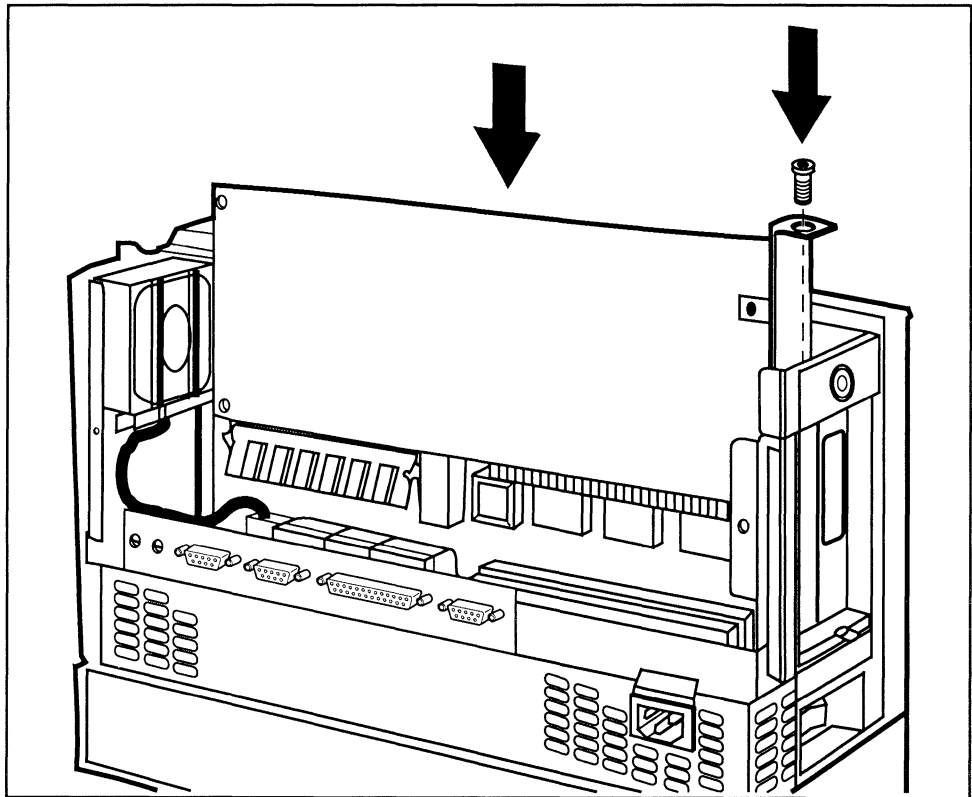

Figure 4–25. Installing a network interface card in the Model 54/55.
5. Carefully lower the NIC into the expansion slot and press it firmly until the connectors seal (Figure 4–25).
6. Reinstall the Torx T-15 retaining screw, as shown in Figure 4–24. Be very careful not to overtighten the retaining screw: it is possible to strip the threads.